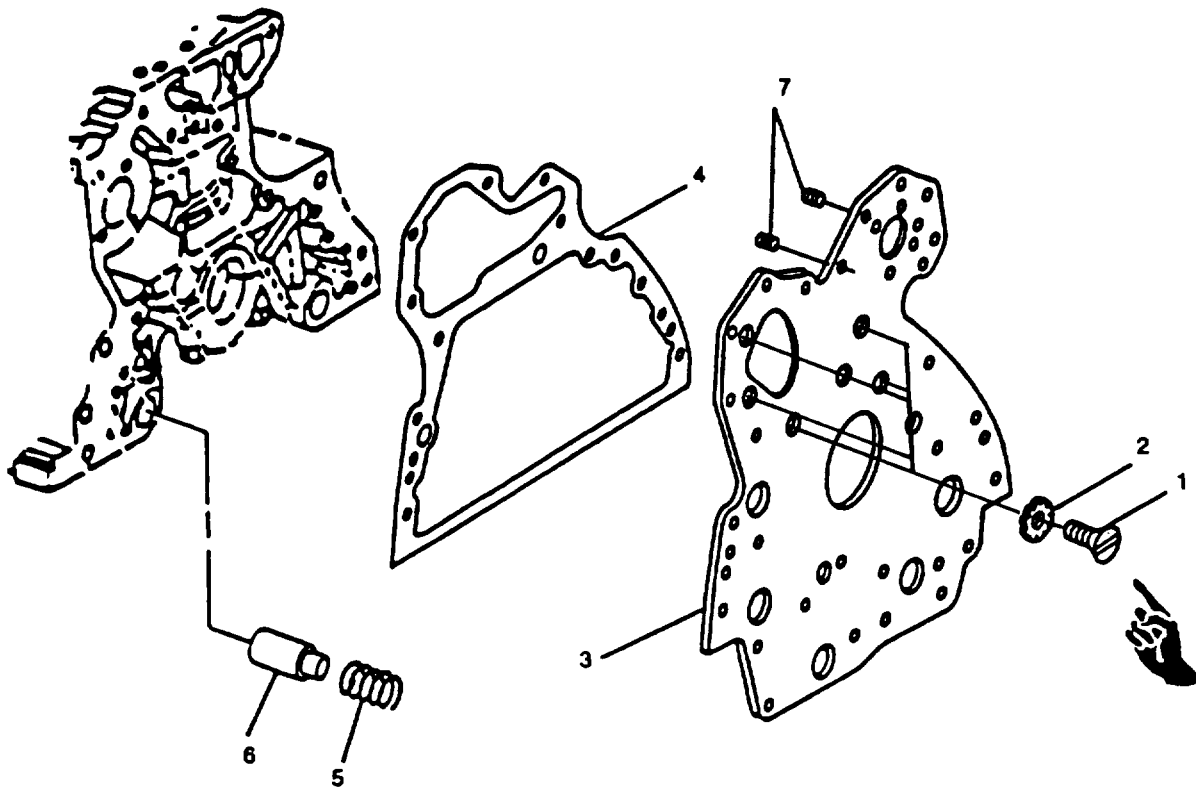

FIGURE 3-117. Front Plate
- g. Remove five screws (1, FIGURE 3-117) and lockwashers (2) securing front plate (3); remove front plate (3) and gasket (4). Discard gasket (4) and lockwashers (2).
- h. Remove oil bypass valve (6) and spring (5).
- i. If new front plate (3) is to be installed, remove setscrew plugs (7). Discard plugs.
Apply sealing compound (LOCTITE 242) to threads of studs and setscrew plugs (7, FIGURE 3-117) before installing in front plate.
- a. Install oil bypass valve (6, FIGURE 3-117) and spring (5) in engine block bore.
- b. Apply a light coating of sealing compound (FORMAGASKET2) to engine block side of new gasket (4).
- c. Install gasket (4) and front plate (3).
- d. Secure front plate (3) with five screws (1) and new lockwashers (2). Tighten screws to 25 ft-lbs (34 Nm).